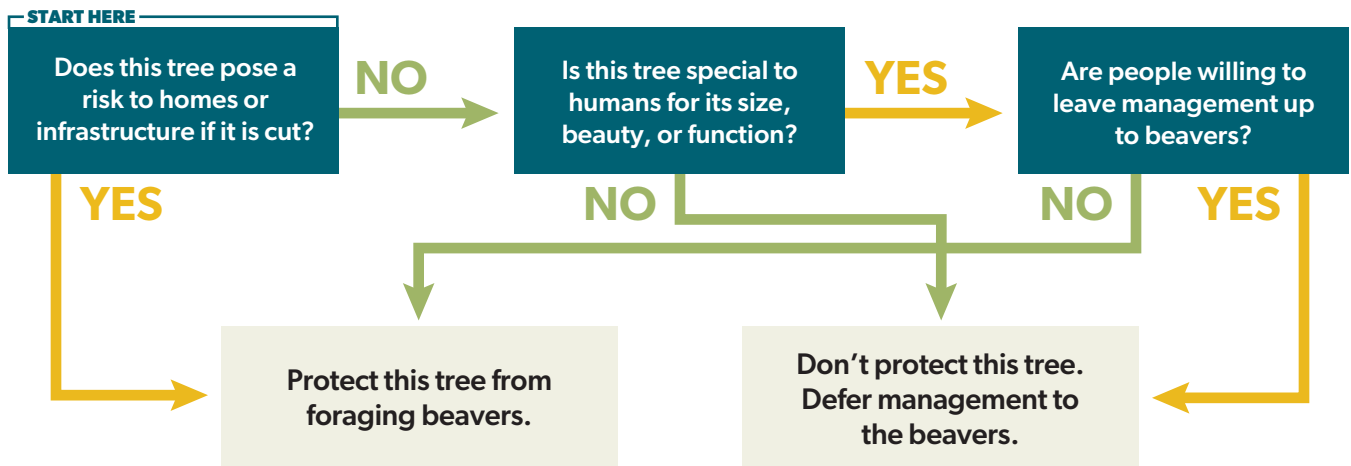

Figure 1. How to decide if a tree should be protected.
As you consider which trees to protect, think about their size, function, value, beauty, and species (Figure 1). **Which trees are significant to the space (like a public park) or special to you?** Avoid fencing off native trees and shrubs that aren't particularly important to the humans that use the site, since these species are often healthier when trimmed by beavers (even when fully cut down). Most native species have developed a regeneration adaptation (coppicing) that allows them to regrow from their roots. If the tree or shrub is an ornamental or fruiting species that humans have introduced to the site, it is less likely to have this adaptation to help it survive a foraging beaver.
1. **Determine which trees** and shrubs you are going to protect (Figure 1).